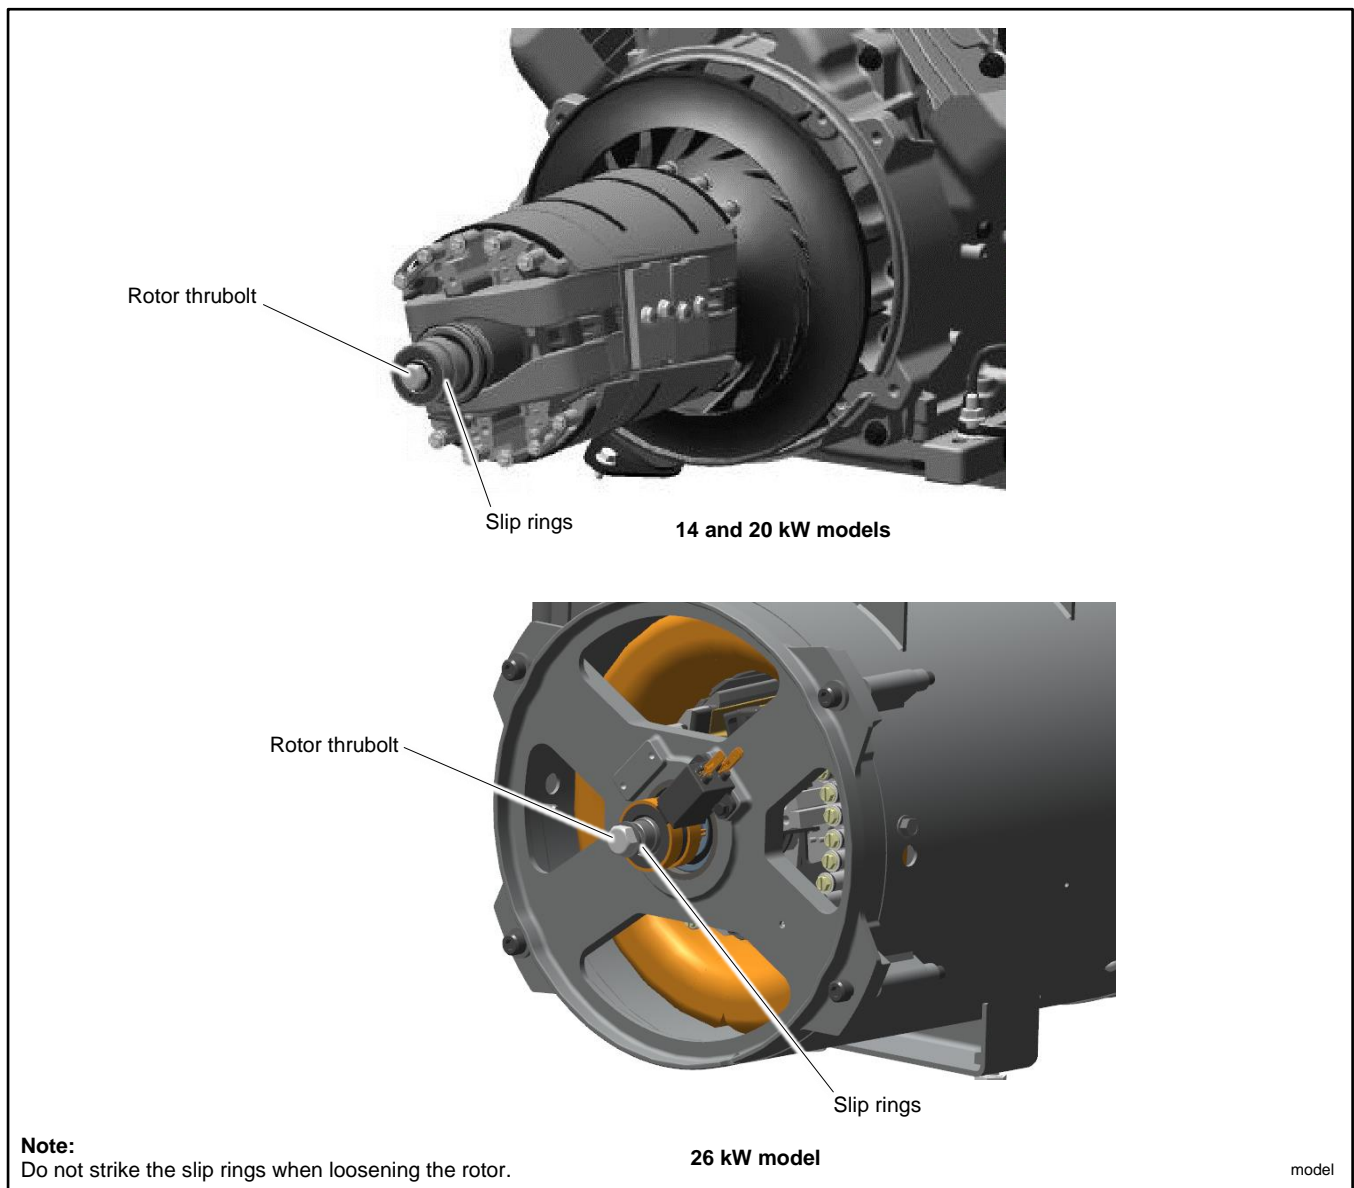

Figure 127 Rotor Assembly with Thru-bolt
- a. Loosen but do not remove the rotor thru-bolt. See Figure 127. Use a strap wrench on the rotor to keep the rotor from turning during loosening, if necessary.